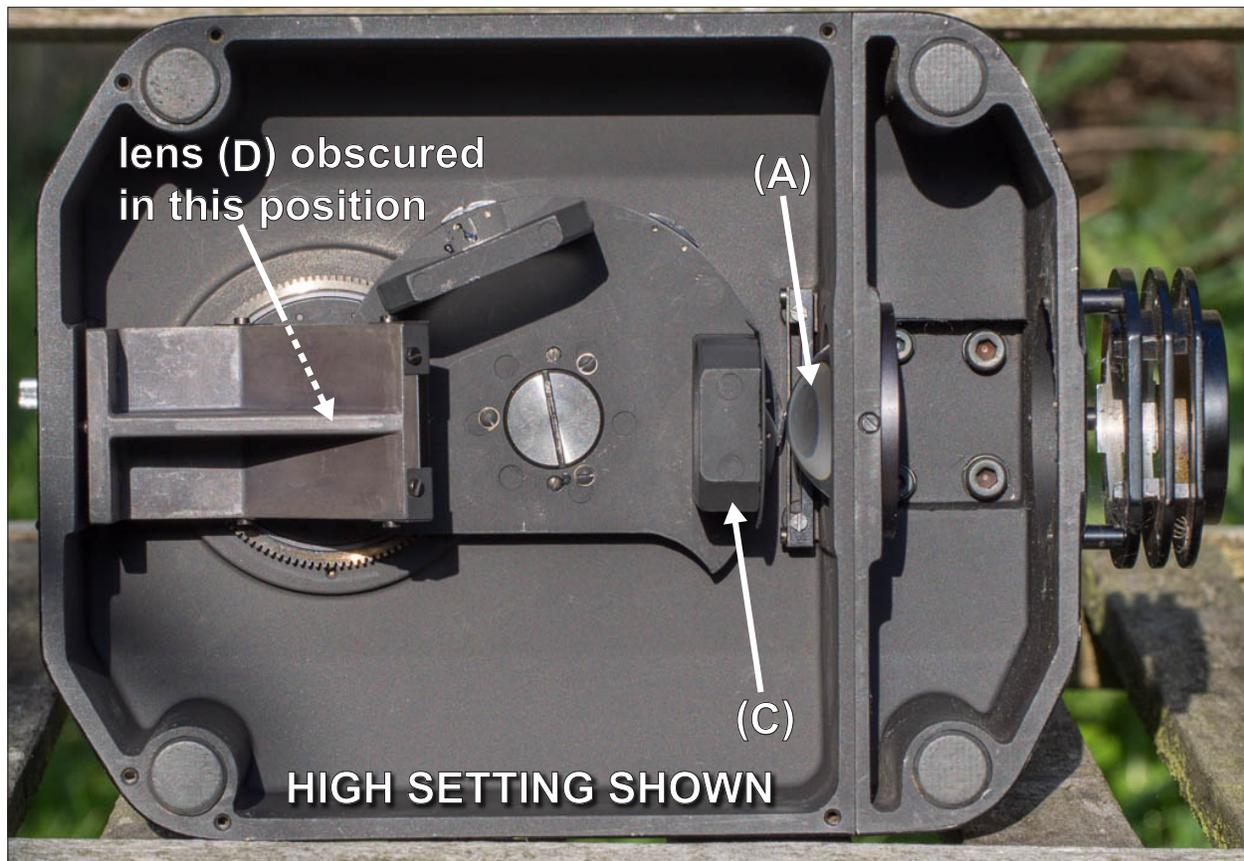

Figure 4. Light pathway in the High setting.
In the H position (Figure 4), there are two of the lenses in the light pathway. Close to the convex lens (A) is a quite thick lens (C) and also the rather small lens (D) which swings into place just underneath the field diaphragm.